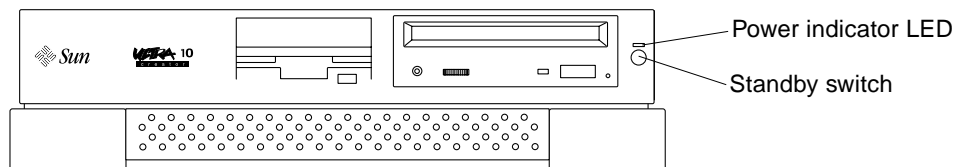
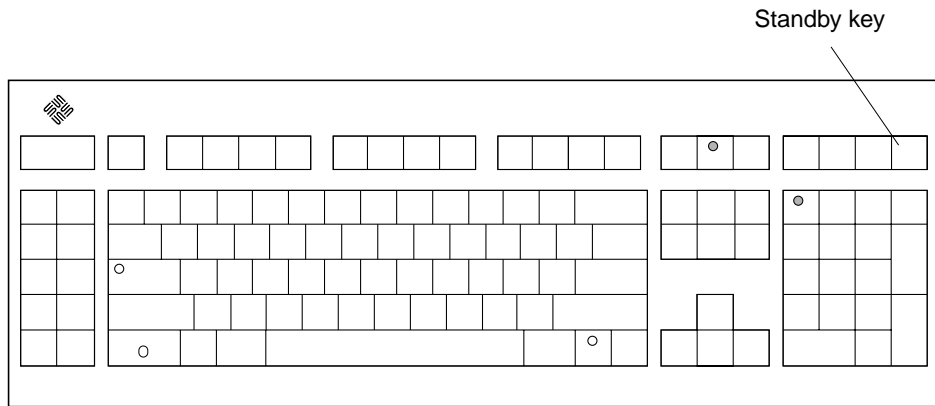
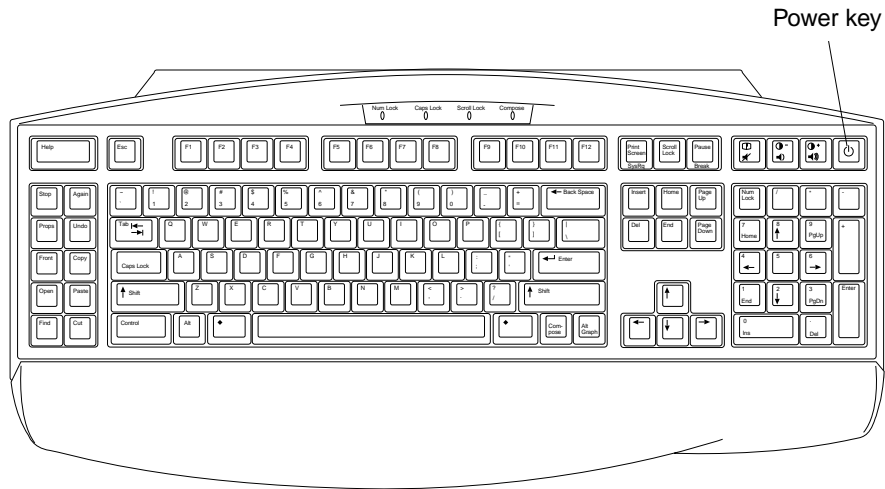

FIGURE 5-1 System Standby Switch
FIGURE 5-2 Sun Type-5 Keyboard
FIGURE 5-3 Sun I/O Type-6 Keyboard
2. **Press the system standby switch (FIGURE 5-1), or press the Sun Type-5 keyboard Standby key (FIGURE 5-2) or the Sun I/O Type-6 keyboard Power key (FIGURE 5-3).**